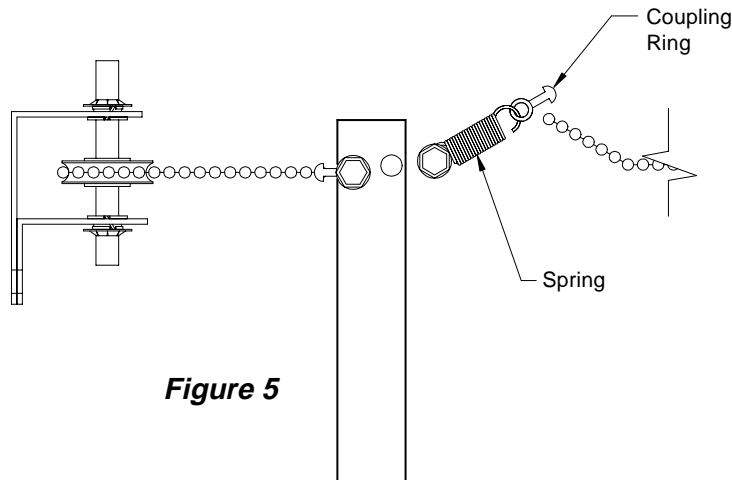

Figure 5
7) Proper tension in the chain extends the spring approximately 1/8". If tension in bead chain is not sufficient, remove Tek screw securing the spring to the traveling bracket and remove the coupling ring from the chain with needle-nose pliers, **See Figure 5.**